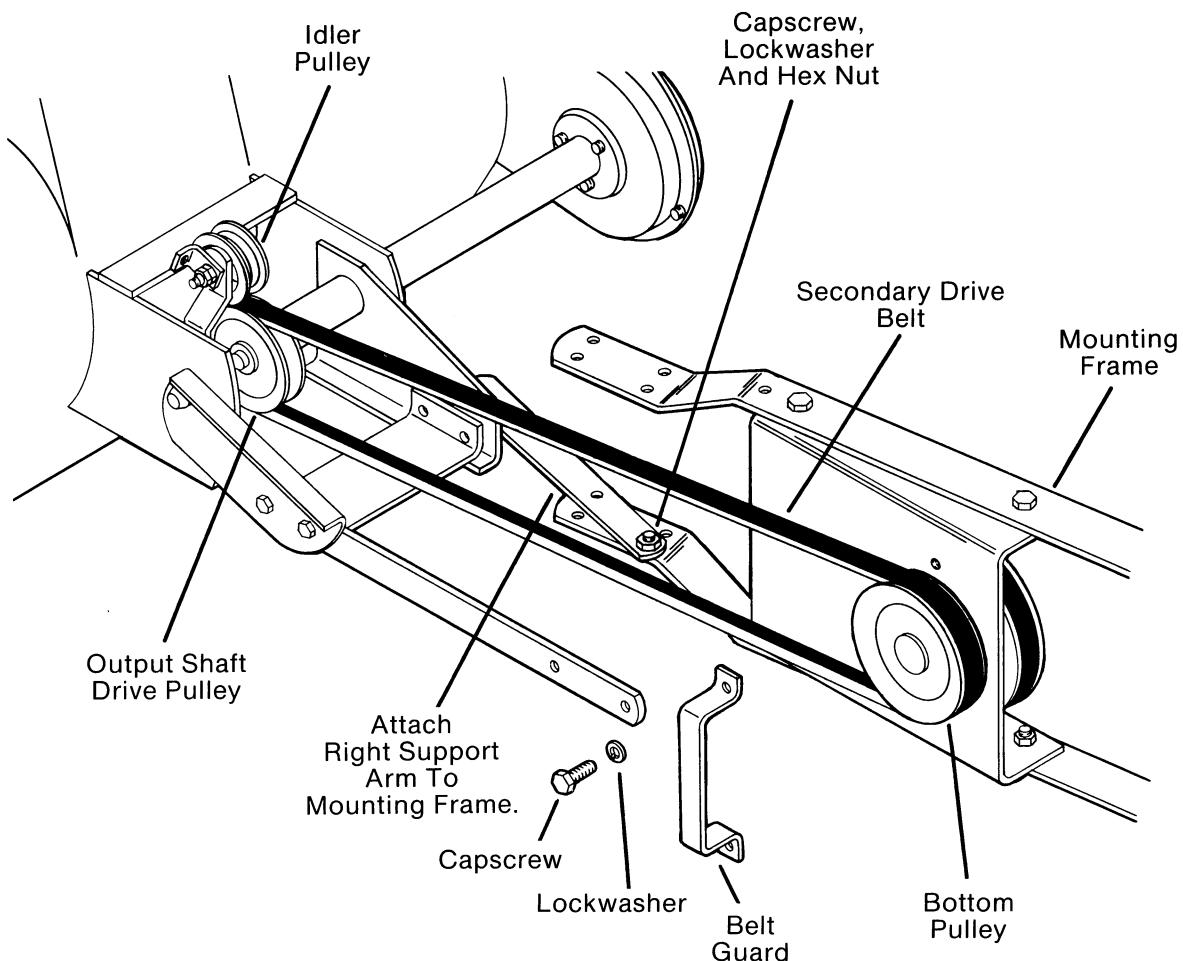

FIG. 3
- B. Attach right support arm to right side of mounting frame (Fig. 3) using a capscrew, lockwasher and hex nut. **DO NOT TIGHTEN AT THIS TIME.**
- C. Tip and hold mounting frame on its right side and remove belt guard from bottom pulley. (Fig. 3)
- D. Slip secondary drive belt around pulley and replace belt guard (Fig. 3). **NOTE:** There should be no twists or turns in the belt. Also be certain idler pulley is above belt as shown. Lay frame down again behind snow thrower and check belt. Belt should run from top of output shaft drive pulley on snow thrower to left side of bottom pulley on mounting frame.